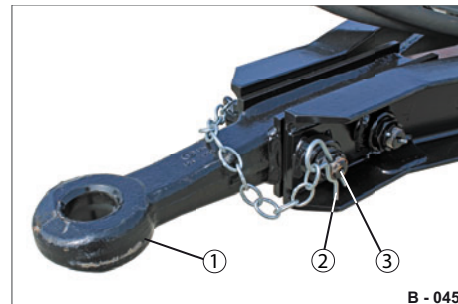

Fig. 42 Secure towing eye
- Set the fastening bolt (Fig. 42/3) through the towing eye and tongue. Screw the fastening bolt tightly and make sure that the spring pin can be inserted.
- Stick the spring pin (Fig. 42/2) into the bore hole of the fastening screw. The rotatable towing eye is secured.